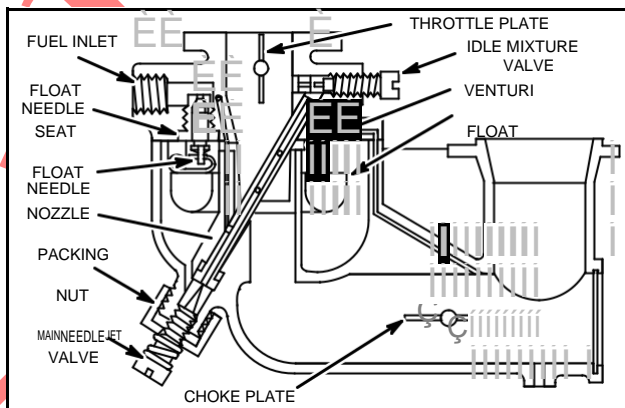

Fig. 269 - TYPICAL TWO PIECE FLO-JET CARBURETOR
4. Because nozzle projects diagonally into a recess in upper body, it must be removed before separating upper and lower bodies, Fig. 269.